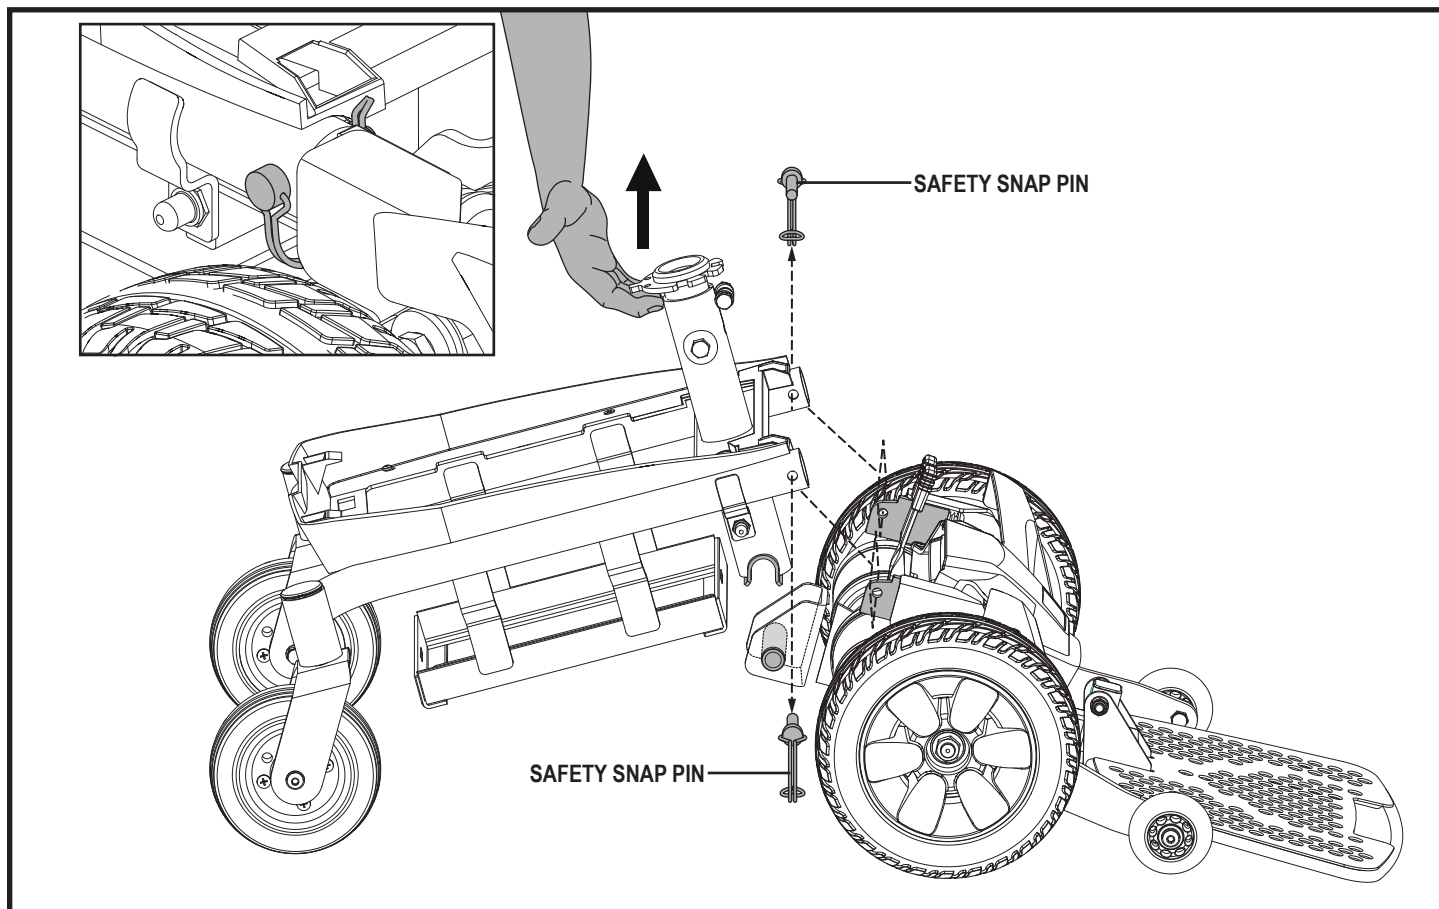

Figure 10. Separating the Jazzy Elite ES Portable and Jazzy Sport Portable Power Base
The Jazzy Elite ES Portable and Jazzy Sport Portable disassemble into several components: the seat, the shroud, the batteries, the rear section of the power base, and the front section of the power base. **See figure 10.**
10. Remove the safety snap pins that connect the rear section of the power base to the front section of the power base. **See figure 10.**